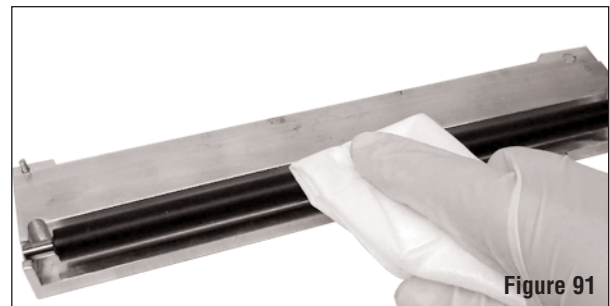

Figure 91
3. Use deionized water and a lint free cloth to remove any toner build-up left on the surface of the PCR. Start cleaning at the center of the PCR and clean out to each end of the PCR. Rotate the PCR to clean the entire diameter. See Figure 91.